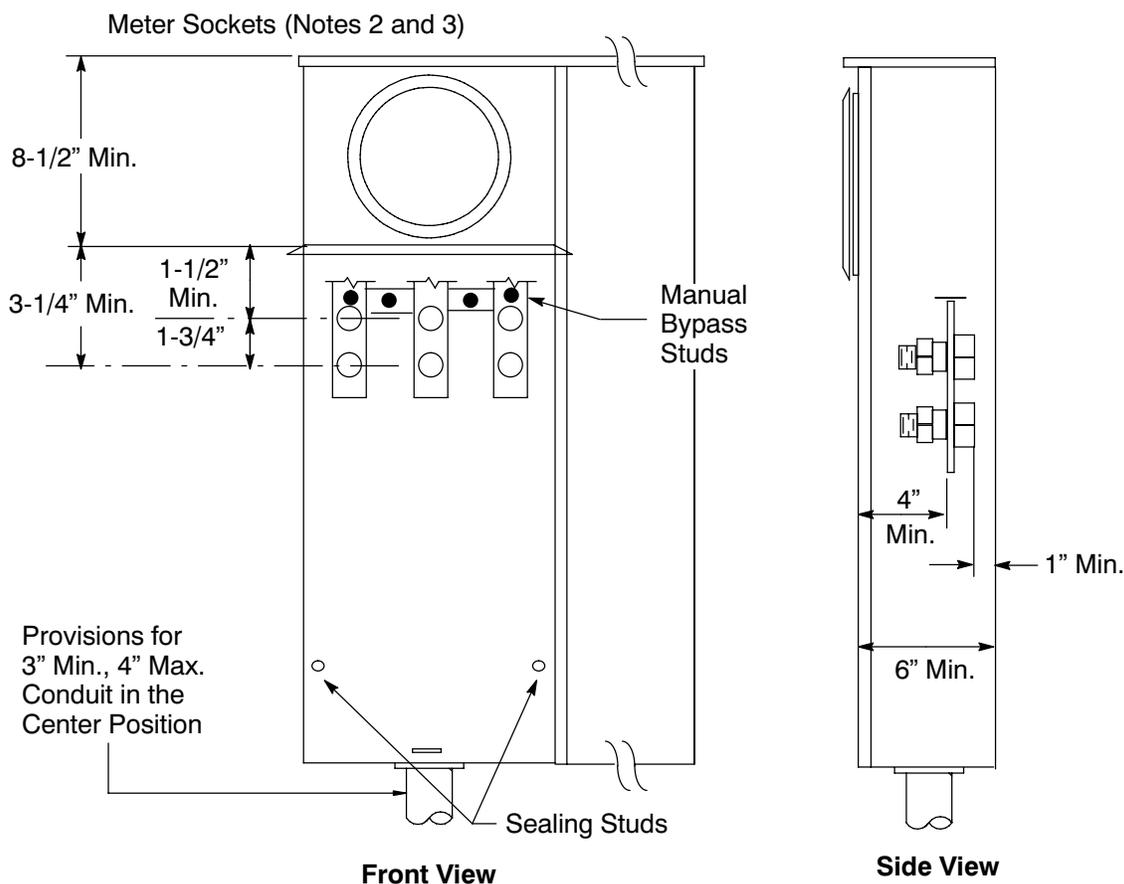

Figure 7-8
- A meter-mounting device, as illustrated in Figure 7-8, "Typical Meter and Service-Termination Enclosure, Combination Meter-Socket Panel for a Class 320 Meter (Residential/Commercial, 120/240-Volt, 226-Ampere Through 320-Ampere Service)," on Page 7-9.
Notes in reference to Figure 7-8.